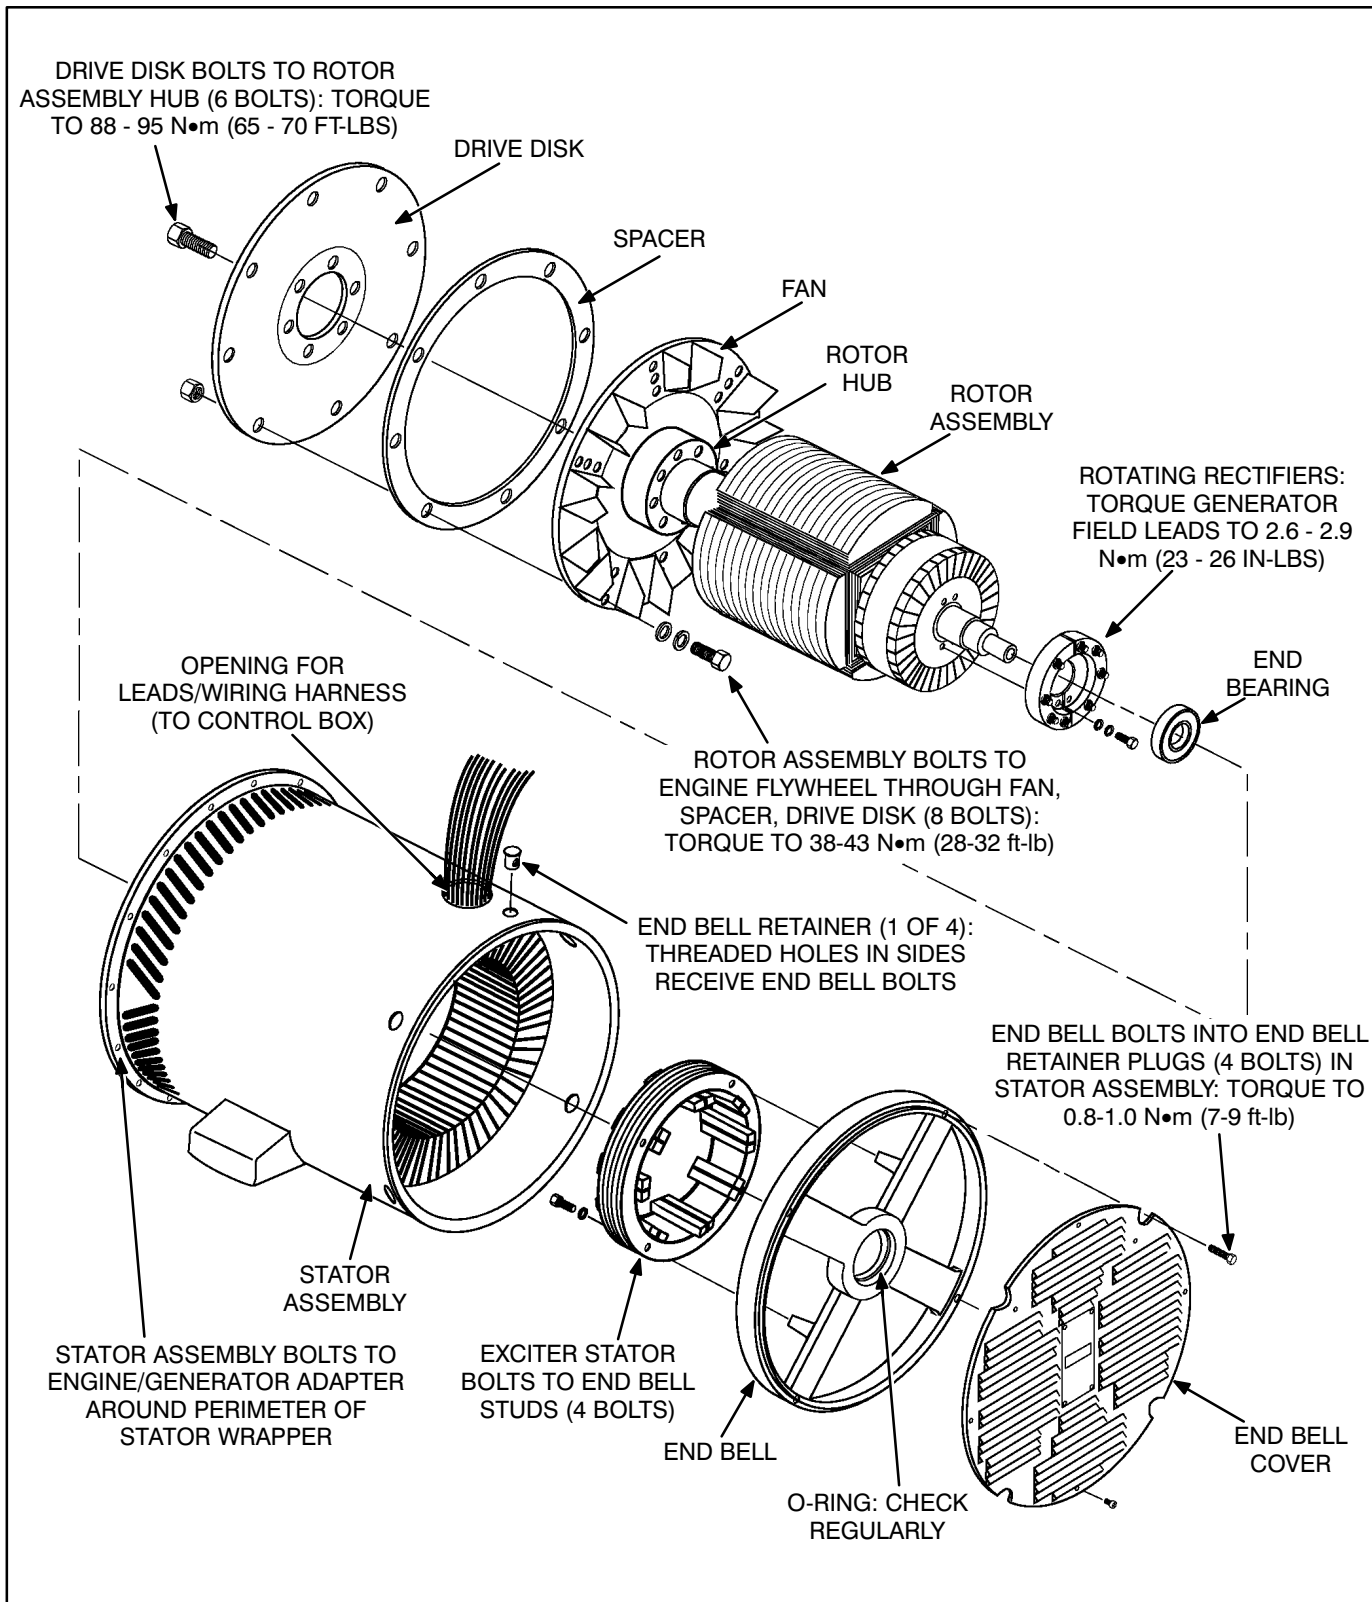

FIGURE 4-6. GENERATOR ASSEMBLY
10. Using a hoist and sling to support the rotor, carefully remove the bolts that attach the drive disc to the engine flywheel (Figure 4-6). Support the fan while removing these bolts, so that it does not fall and damage the rotor windings.